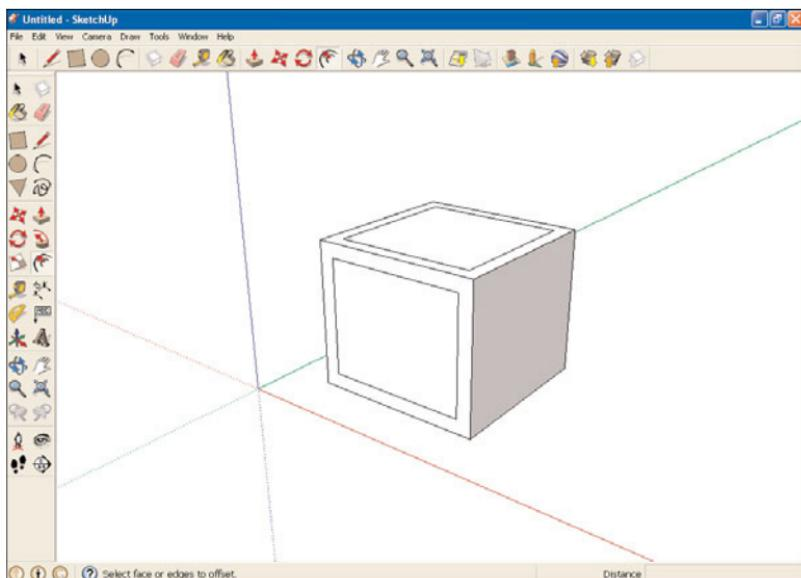

FIGURE 9.12 A new offset edge.
6. Double-click the mouse on another surface of the cube. Double-clicking the mouse draws another offset at the same distance you drew the previous one, as you see in Figure 9.12.